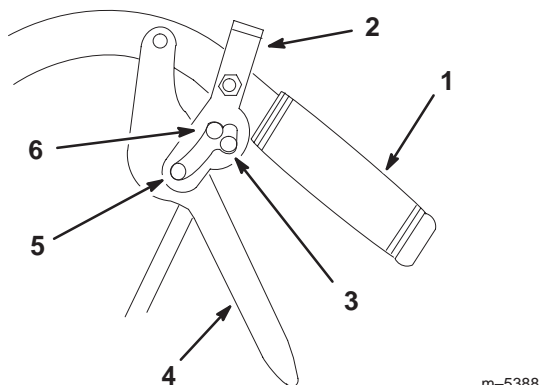

Figure 12
2. Place thumbs on the upper part of of locks and move them back (Fig. 12).
- Place thumbs on the upper part of of locks and move them forward until in forward slot (Fig. 12).